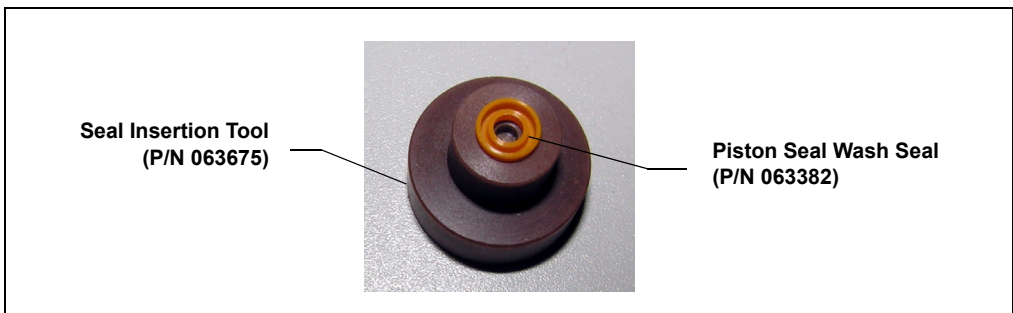

Figure 9-6. Piston Seal Wash Seal and Seal Insertion Tool
- b. Slide the seal wash seal (P/N 063382), with the open side of the seal facing upward, onto the seal insertion tool (P/N 063675) (see Figure 9-6).